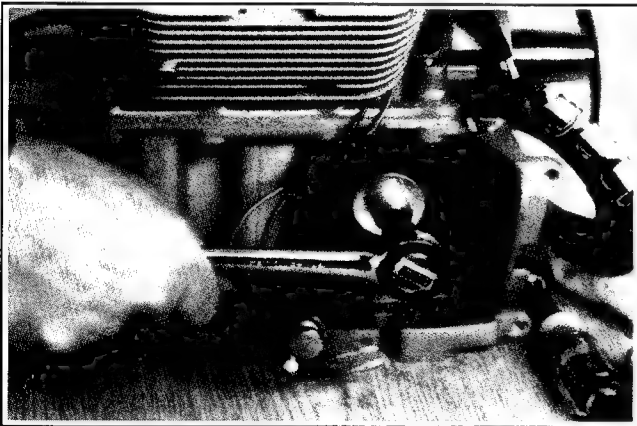

Figure 9-39. Removing Oil Filter Nipple.
1. Remove oil filter nipple with an 8 mm (or 5/16") allen head. Turn nipple in counterclockwise direction. See Figure 9-39.